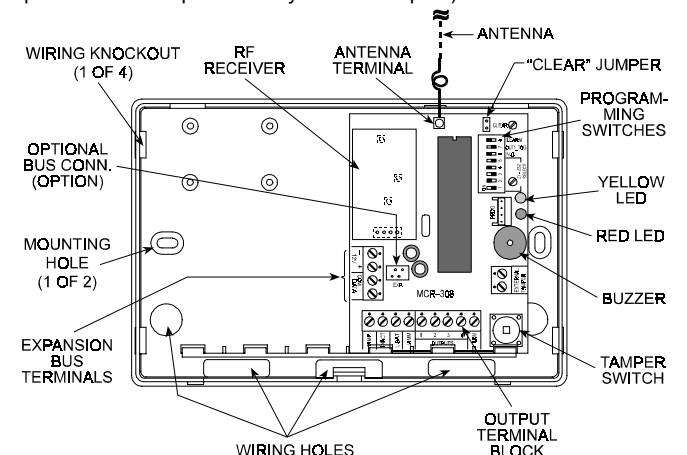

Figure 3. MCR-308 with Cover Removed
### 1.5 Construction Details (Figure 3)
- B. The semi-rigid antenna supplied with the MCR-308 is taped to the inner part of the cover. Detach the antenna from its storage position, insert its straight tip into the antenna terminal and **tighten the screw well**. See Figure 3 for antenna terminal location.